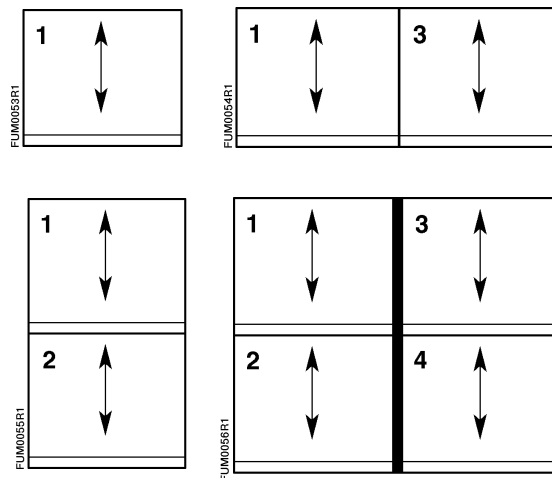

Figure 14. Sash Wire Numbering.
8. If there are multiple sashes, use the wire marker labels to number the end of the sensor wires. See Figure 14 for proper sash numbering.